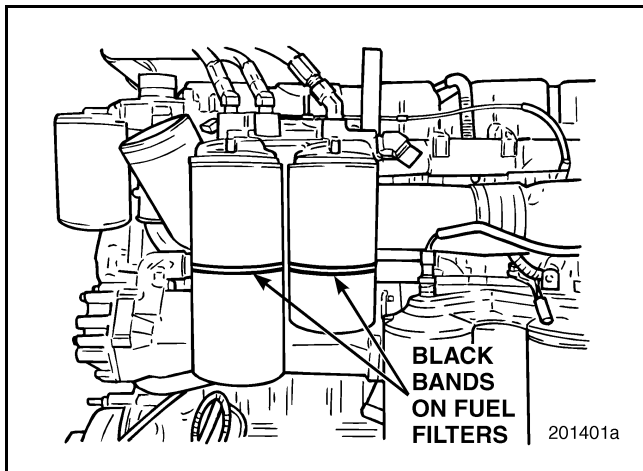

Figure 35 — Fuel Filters
- Unique identification system (a red primary filter and green secondary filter with black logo and lettering, and two 1/4-inch black bands, four inches from top of filter). Refer to Figure 35.